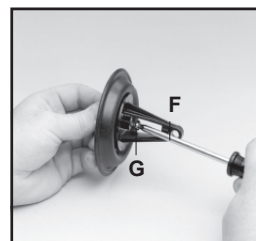

Figure 16
- 5) To replace the diaphragm, remove the connecting rod retaining screw (G) from the plunger and lever (F). Replace the diaphragm and reassemble. See Figure 16.